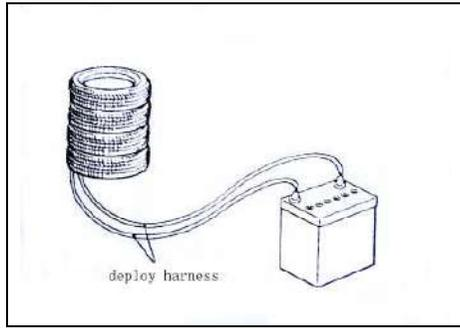

Fig 19-51
8) Separate the deployment harnesses as far from the driver's side air bag module as possible and connect to the terminals of the battery removed from the vehicle, Then deploy . (See fig 19-51)